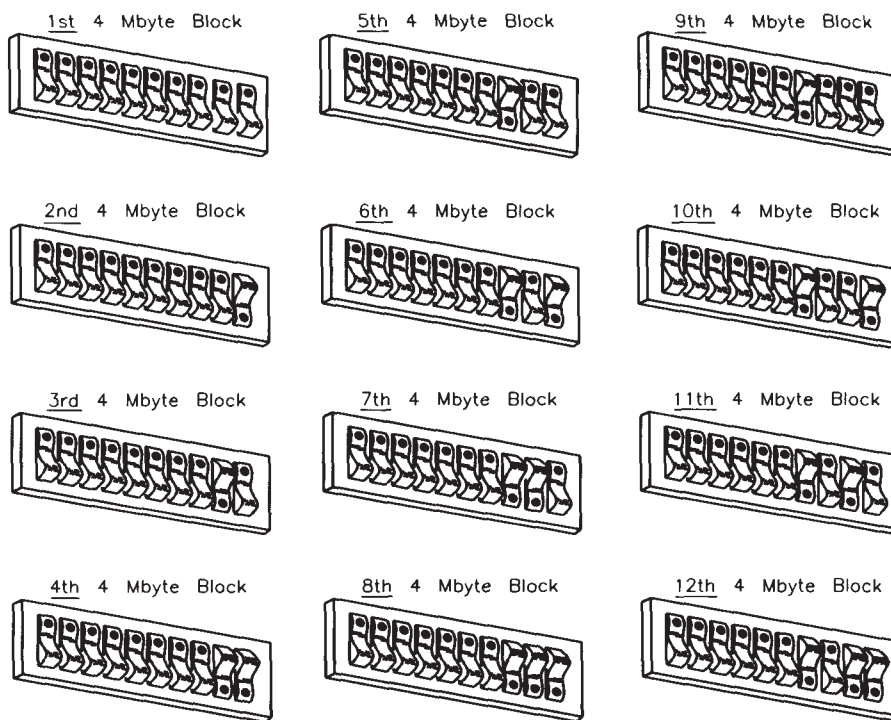

Figure 3-6.
2. For each 16 Mbyte board already installed in the computer, cross off four of the 4 Mbyte blocks in Figure 3-6. Start with the first block and work down.